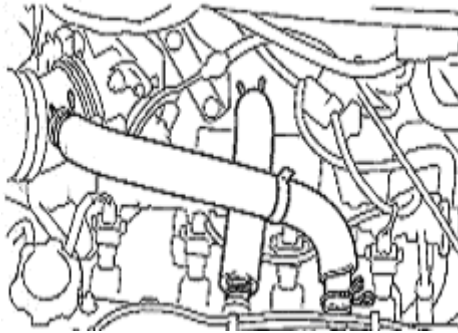

Figure 95
2. Remove PCV ventilation hoses. See (Figure 95). Remove fuel pipe clamp.